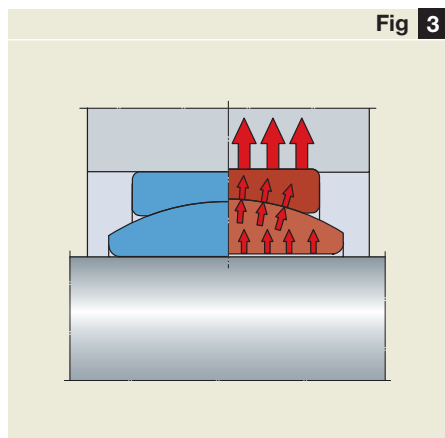

Fig 3
- the fit of the inner ring will loosen (→ fig 3) and